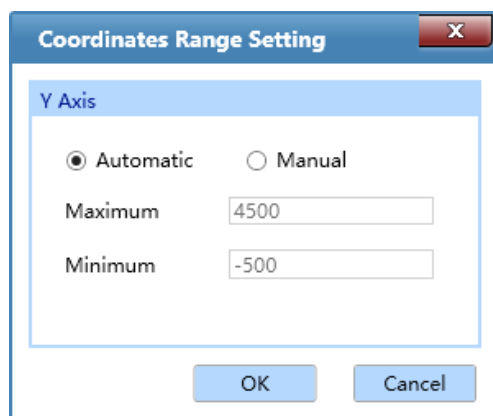

Figure D- 9.1a. Abs Quant Analysis Interface - Coordinate Range Setting
- <  **Y-axis Coordinate Adjustment** >: user can adjust the Y-axis coordinate of the amplification curve diagram. Please click <  **Y-axis Coordinate Adjustment** > icon and the coordinate range setting box will pop up automatically, as shown in figure D-9.1a. User can select **Automatic** or **Manual** option in the coordinate range setting box to set the Y-axis coordinate. If the **Automatic** option is selected, the application software will automatically adjust the Y-axis coordinate according to the detected fluorescence value; if the **Manual** option is selected, user can manually enter or use  and  keys to set the maximum and minimum value of Y-axis coordinate range in the **Maximum** and **Minimum** input box and click < **OK** > to confirm.